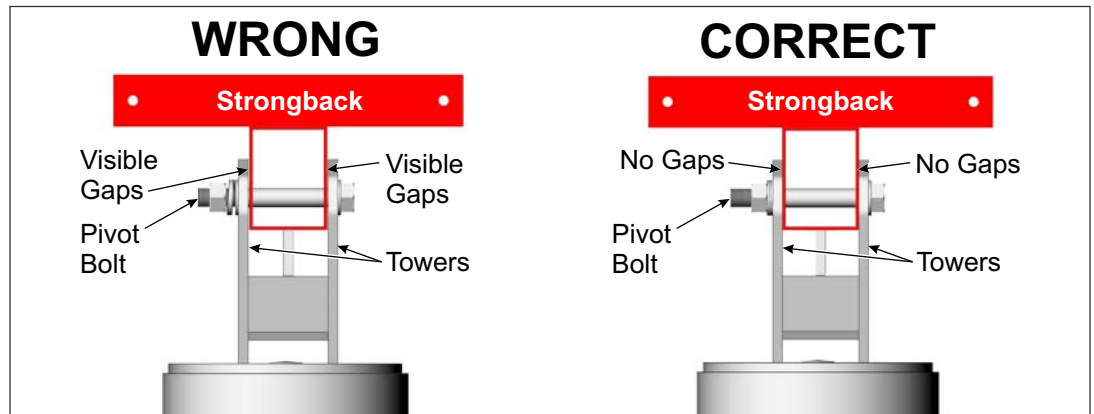

Figure 7-3: Tighten and Torque the Pivot Bolt
- C. Re-Tighten the Pivot Bolt. After changing the tilt angle and tightening the Support Bar hardware, the Pivot Bolt must be re-tightened. The Pivot Bolt cannot be left loose - the Mounting Sleeve Vertical Towers must be firmly clamped to the sides of the Strongback, eliminating any gaps between the Vertical Towers and the Strongback. **Torque to 330-350 ft.-lbs.** (See Figure 7-3)